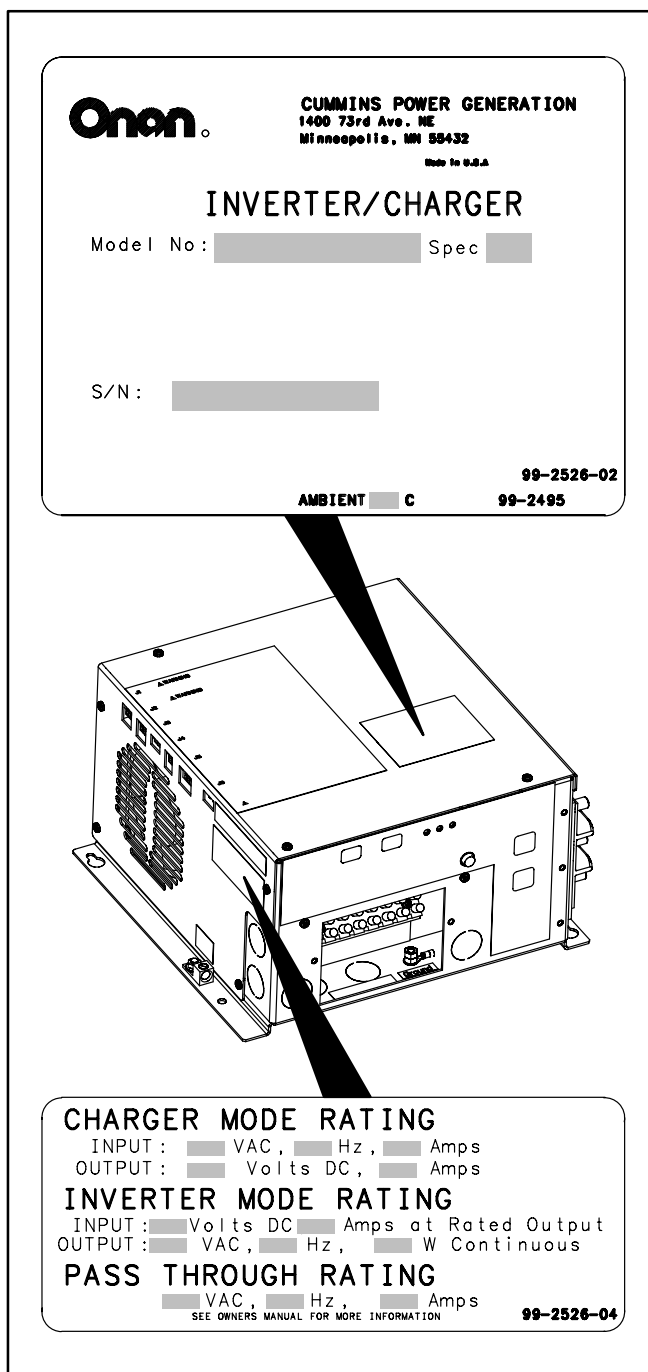

FIGURE 1. NAME AND RATING LABELS
The name and rating labels are located on the top and side of the Inverter-Charger (Figure 1).
1. Model Number, including Spec Letter, and Serial Number (gray boxes in Figure 1)